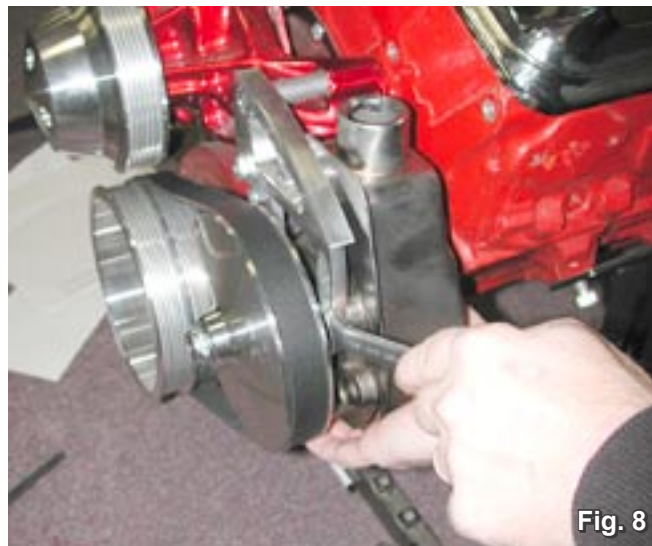

Fig. 8
8. Mount power steering pulley to power steering pump shaft. Check power steering pulley to crank pulley alignment. Install belt (Use 39.5" 5 rib serpentine belt for serpentine conversions) and adjust belt tension by pulling up on the power steering pump. Belt tension is correct when there is no more than 1/4" play in the belt at midpoint between the power steering pulley & the crank pulley. Lock the belt tension by tightening the adjustment bolt with a 9/16" opened end wrench (fig. 8).